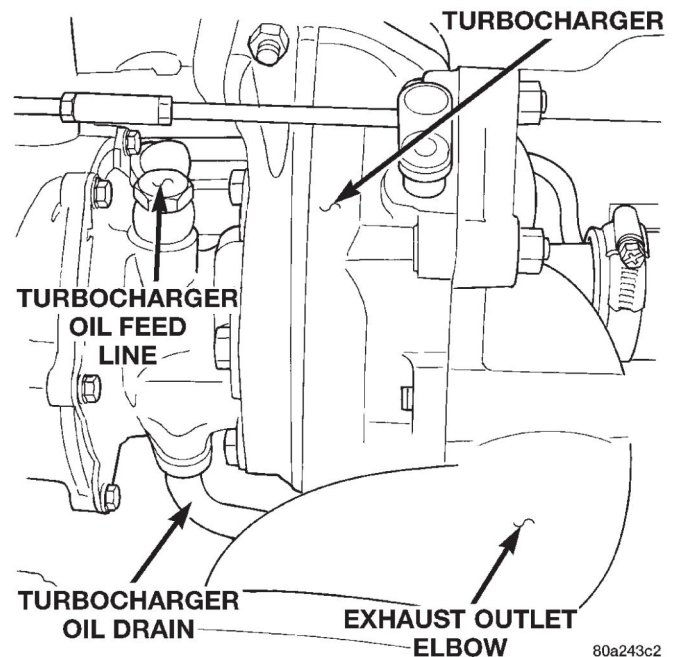

Fig. 25 Turbocharger
- (11) Remove exhaust pipe from turbocharger elbow and.
- (12) Disconnect oil feed line from turbo (Fig. 25).
- (13) Disconnect oil drain line from turbo.
- (14) Remove Intake manifold. Refer to Group 11, Exhaust System and Intake Manifold.